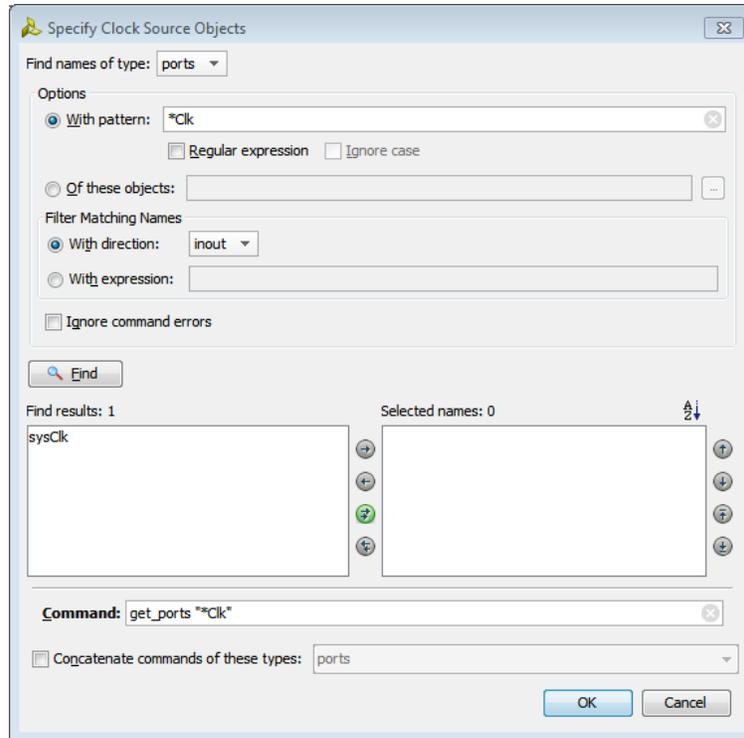

Figure 10: Specify Clock Sources
- b. For the Source Objects field select the browse button () to bring up the Specify Clock Sources Objects search window as shown in Figure 10: Specify Clock Sources.